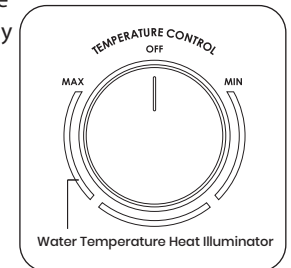

Fig. 10
2. Turn on the temperature control (**Fig. 10**) :